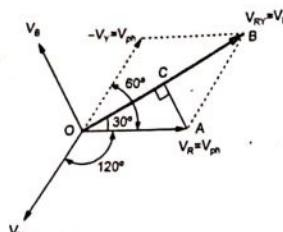

Fig. 4.9.2
- The phasor diagram to get  $V_{RY}$  is shown in the Fig. 4.9.2. The  $V_Y$  is reversed to get  $-V_Y$  and then it is added to  $V_R$  to get  $V_{RY}$ .